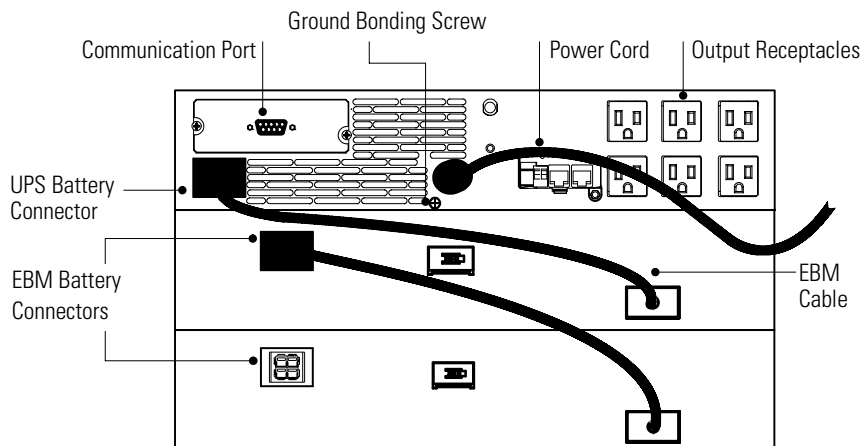

Figure 8. Typical Installation with Two EBMs
The following steps explain how to install the UPS. Figure 8 shows a typical installation only. See “UPS Rear Panels” on page 25 for the rear panel of each model.
5. Plug the EBM cable into the battery connector on the UPS rear panel (see Figure 8).